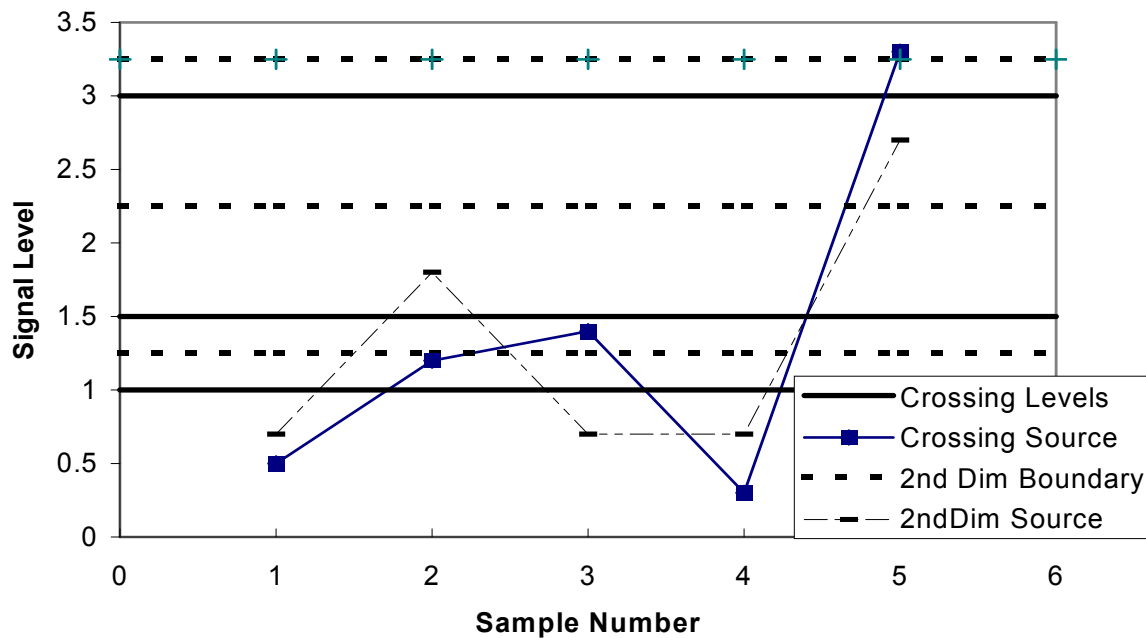

FIGURE 6.4-2. Crossing Data with Second Dimension Value
**2 Dim Level Crossing Example:** Figure 6.4-2 depicts the data input for a two dimensional level crossing histogram that has three **level crossing** values (1, 1.5, 3) and three **SecondDim** values (1.25, 2.25, 3.25). This results in a level crossing histogram having 9 bins. In this example, a count would go to bin:
Using the sample data depicted in **Figure 6.4-2**, the values loaded in to the **LevelCrossing** bins are as listed under **Action** below: